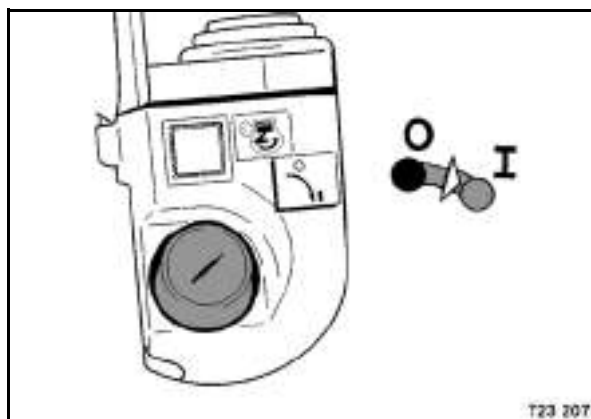

Fig. 82
- Switch on the ignition (Fig. 82) and restart the machine.